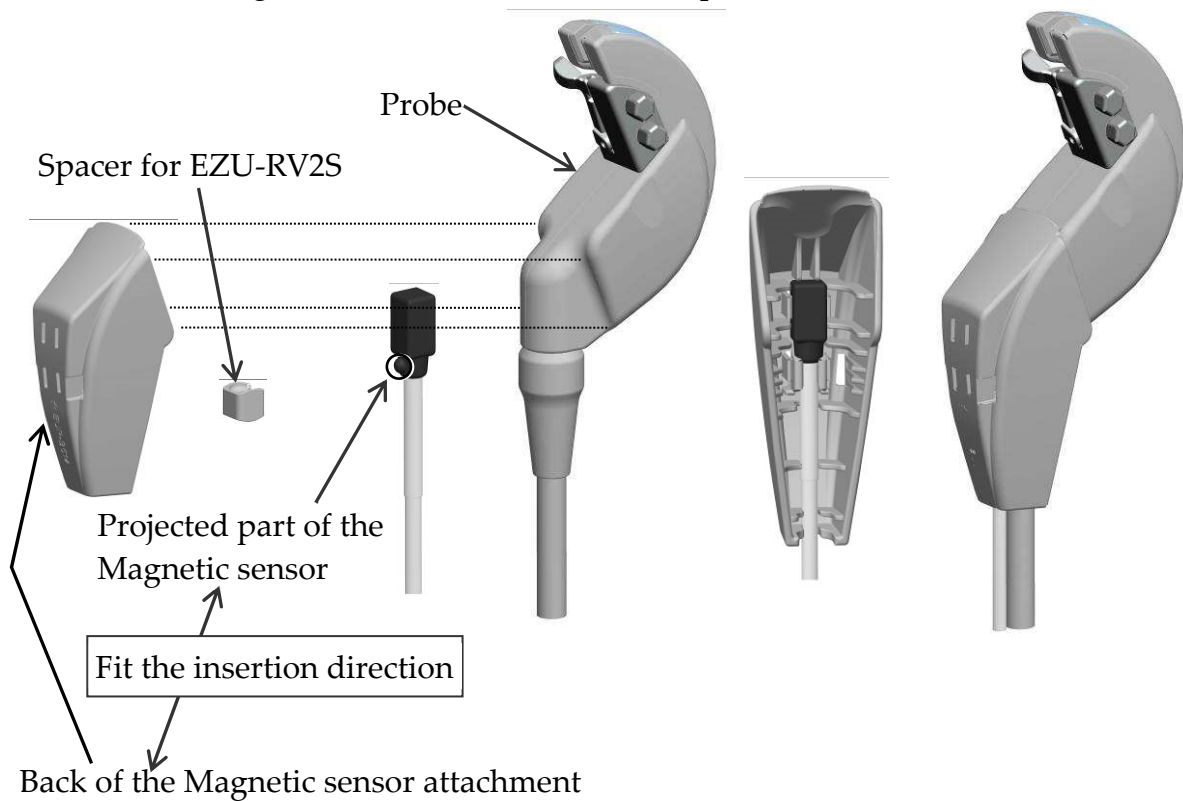

Fig.8 How to attach the Magnetic sensor
- b) Insert the Magnetic sensor (EZU-RV2S) into the Magnetic sensor attachment with the correct direction as shown in Fig.8.